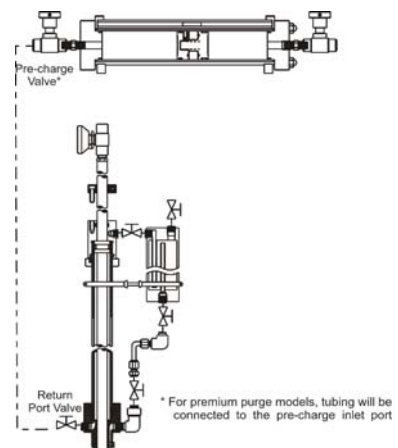

Figure 4
- Use small diameter stainless steel tubing to connect from the cylinder's pre-charge inlet valve to the valve on the return port of the probe (see Figure 4). If you have the premium purge model, connect from the sampler to the pre-charge inlet port (see Figure 3).